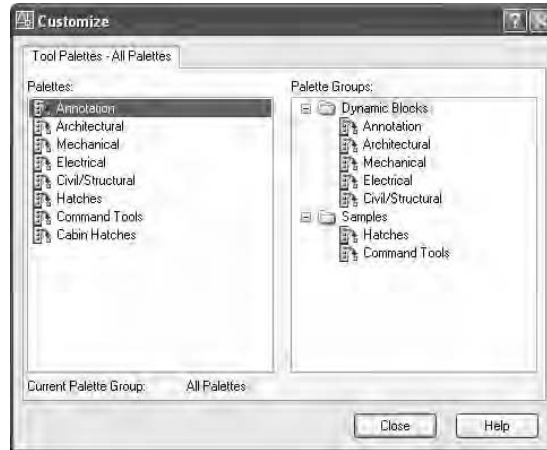

FIGURE 9.28: The Customize dialog box
4. Right-click the new palette, and choose Customize to open the Customize dialog box (see Figure 9.28). Position it so it does not obscure the command tools you want on the Command palette.